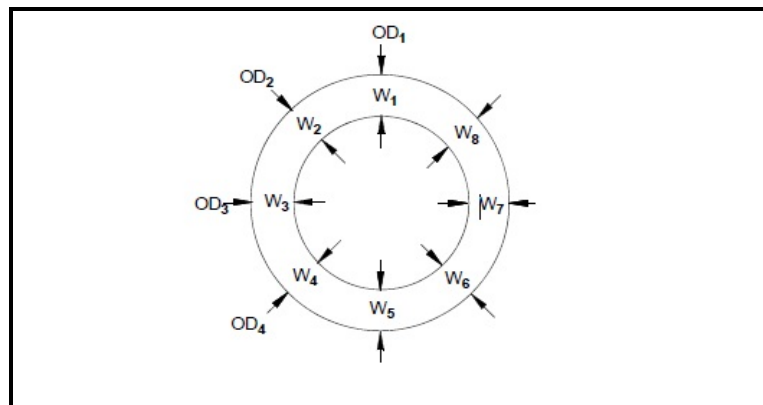

Figure 15: Measuring the OD and Pipe Wall Thickness
4. Now measure the OD and the wall thickness at eight points along the pipe circumference at 45° intervals (shown in Figure 15 below), three times per point, and record the mean values.